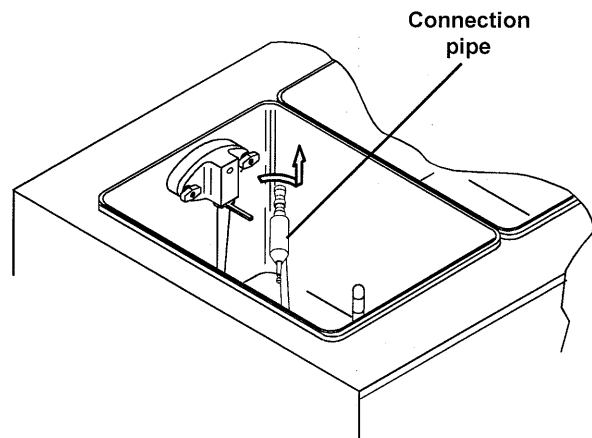

Fig.10
- 1) Proceed with the disassembly process by extracting connection pipe from the pump (Fig.10). Slightly turn pressure pipe and extract it from its seat.